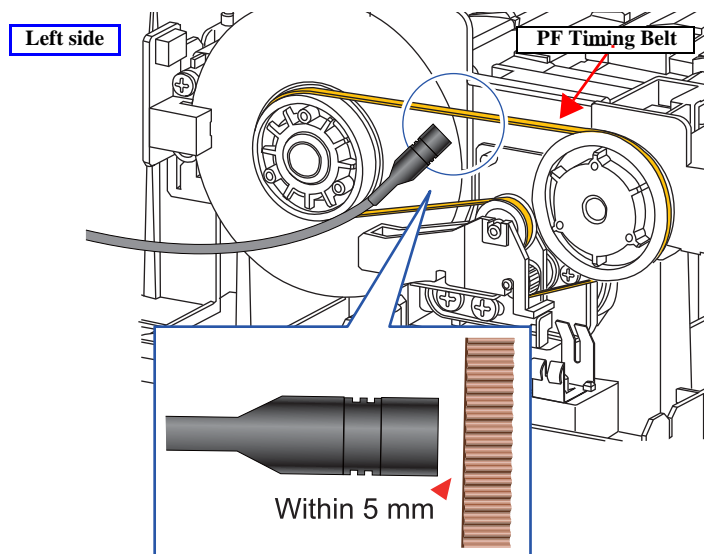

Figure 2-2. Preparation
2. Bring the microphone of the sonic tension gauge close to the upper center of the PF Timing Belt as shown in Figure 2-2.